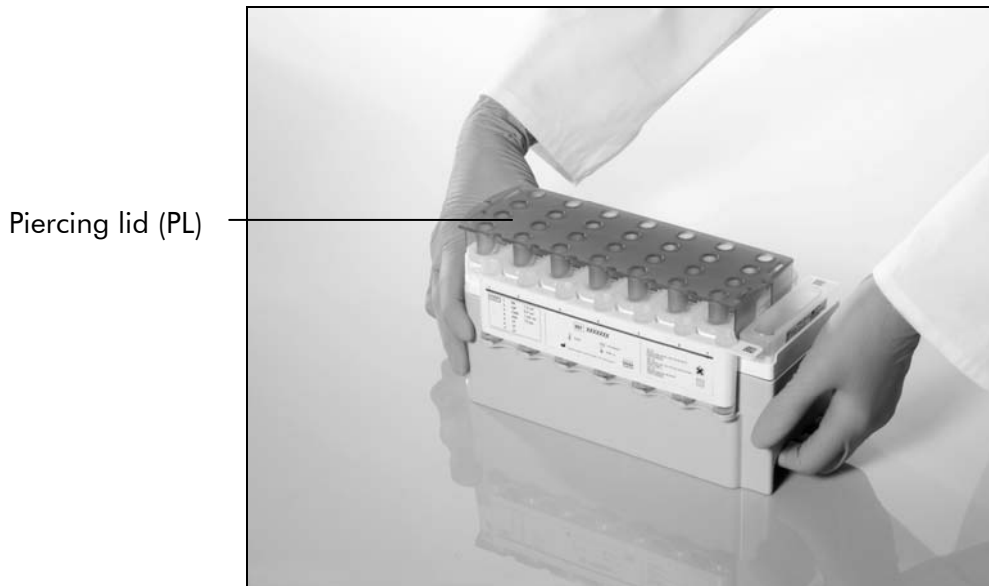

Figure 8. Easy worktable setup with reagent cartridges (RC).
Before starting the procedure, ensure that the magnetic particles are fully resuspended. Remove the magnetic-particle trough from the reagent cartridge frame, vortex it vigorously for at least 3 minutes, and replace it in the reagent cartridge frame before the first use. Place the reagent cartridge (RC) into the reagent cartridge holder. Place the enzyme rack (ER) into the reagent cartridge holder. Before using a reagent cartridge (RC) for the first time, place the piercing lid (PL) on top of the reagent cartridge (RC) (Figure 8).